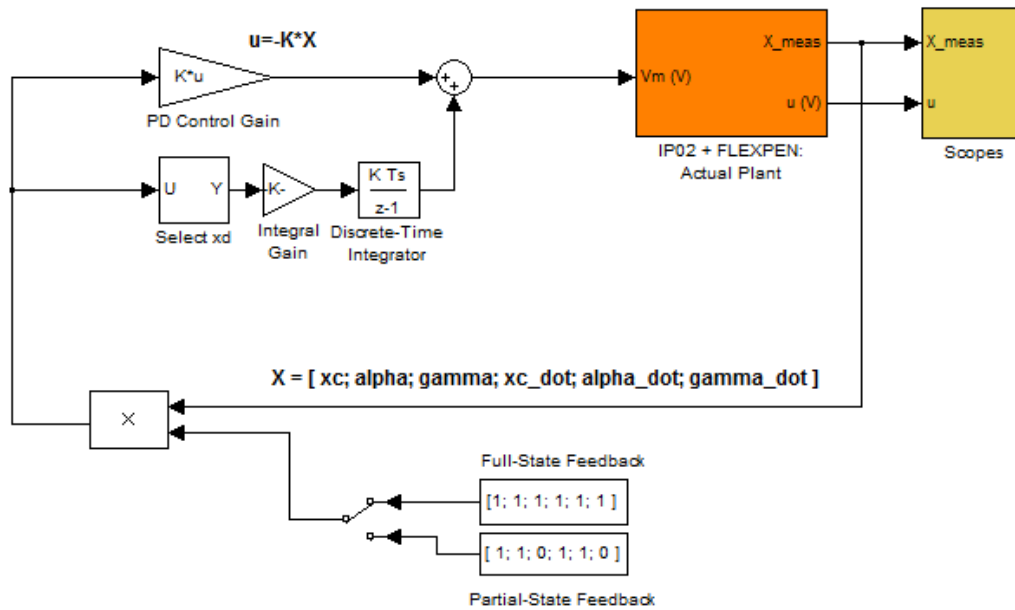

Figure 3.4: Simulink model used with QUARC® to run controller on the FLEXPEN.
The *q\_flexpen* Simulink diagram shown in Figure 3.4 is used to perform the balance control on the FLEXPEN. The *IP02 + FLEXPEN* subsystem contains **QUARC®** blocks that interface with the DC motor and sensors of the FLEXPEN system.
4. Open the `q_flexpen.mdl` Simulink diagram, shown in Figure 3.4.